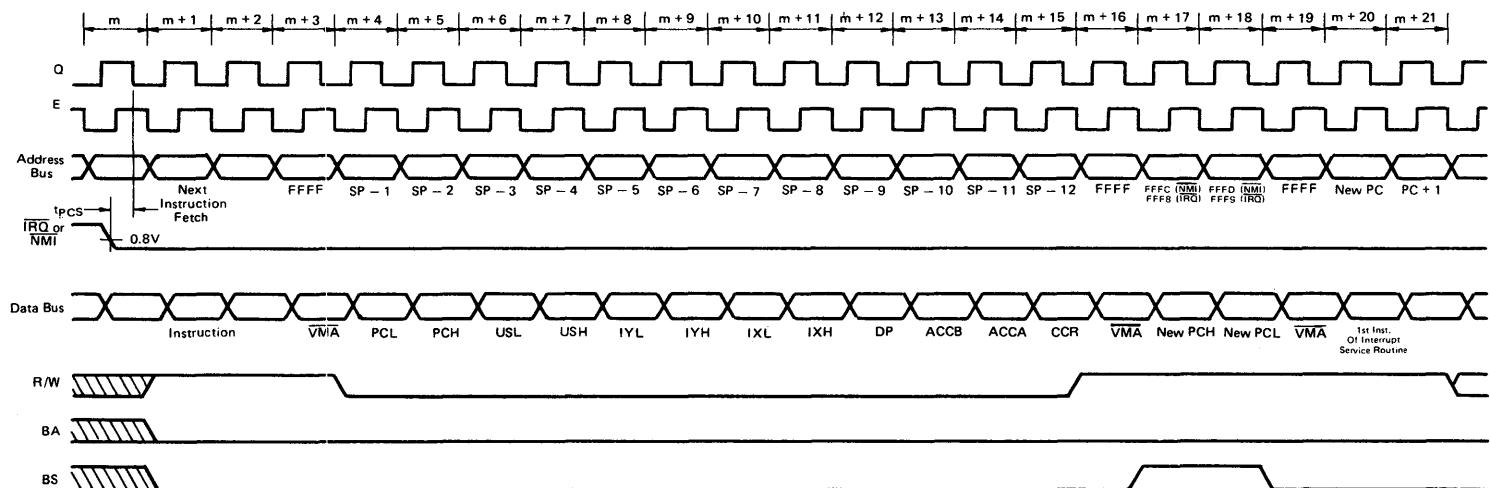

Figure 9 TRQ and NMI Interrupt Timing
A negative edge on this input requests that a nonmaskable interrupt sequence be generated. A non-maskable interrupt cannot be inhibited by the program, and also has a higher priority than  $\overline{FIRQ}$ ,  $\overline{IRQ}$  or software interrupts. During recognition of an  $\overline{NMI}$ , the entire machine state is saved on the hardware stack. After reset, an  $\overline{NMI}$  will not be recognized until the first program load of the Hardware Stack Pointer (S). The pulse width of  $\overline{NMI}$  "Low" must be at least one E cycle. If the  $\overline{NMI}$  input does not meet the minimum set up with respect to Q, the interrupt will not be recognized until the next cycle. See Fig. 9.
A “Low” level input on this pin will initiate an interrupt Request sequence provided the mask bit (I) in the CC is clear. Since IRQ stacks the entire machine state it provides a slower response to interrupts than FIRQ. IRQ also has a lower priority than FIRQ. Again, the interrupt service routine should clear the source of the interrupt before doing an RTI. See Fig. 9.